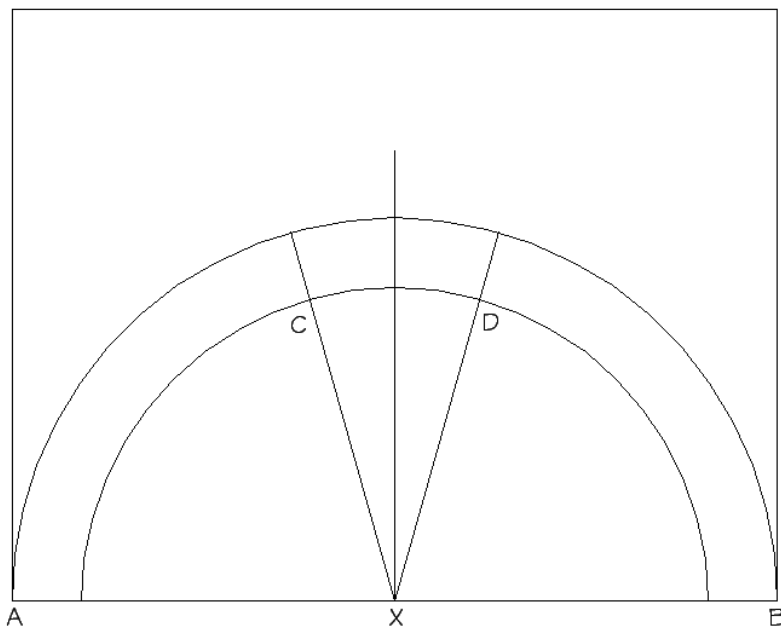

Figure 13.5
5. Another “easy” way to design an arch, this time without the use of a protractor, is to begin by arbitrarily designing the keystone to any practical size you desire. On line AB of **Figure 13.5**, simply sweep out the two half-circles as before, this time with a perpendicular indicated. Measure off the size of your keystone on each side of the perpendicular on the inner half-circle (C and D in **Figure 13.5**), and then mark off the edges of the keystone with lines to the center-point of the half-circle, X.